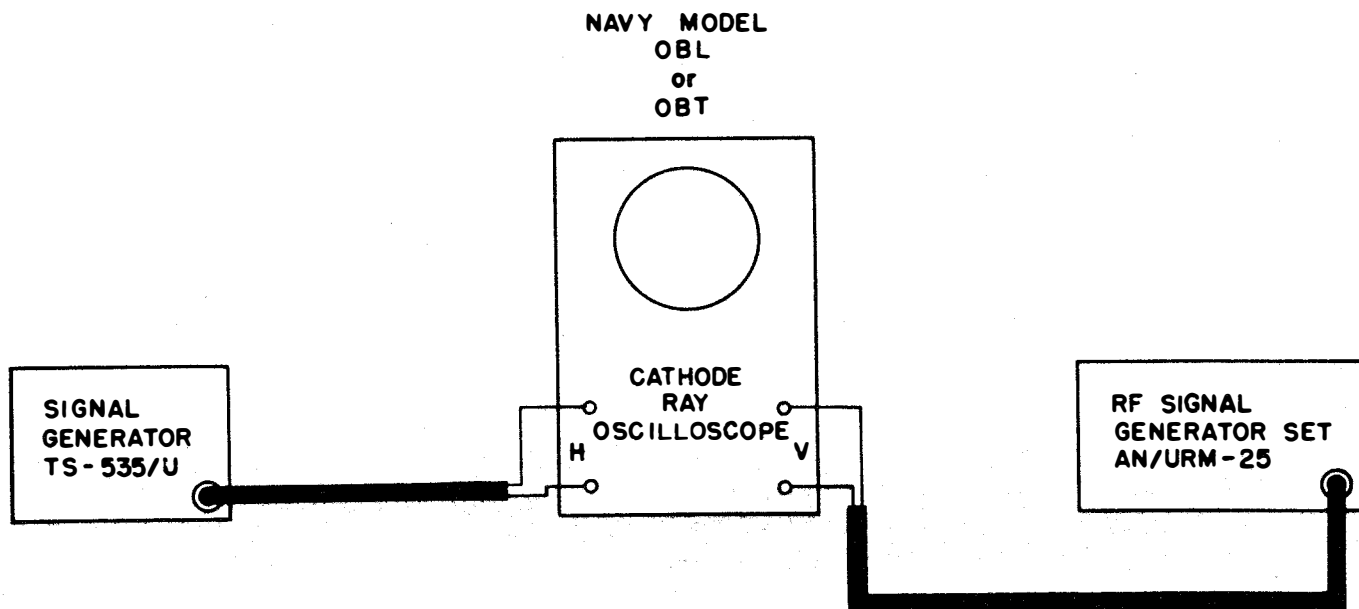

Figure 6-8. Method for Calibrating the RF Signal Generator Set AN/URM-25 at Frequencies Below 100 Kilocycles
(4) In using the heterodyne frequency meters referred to in paragraph 7 of this section, connect the output test cable (W-104) to the heterodyne frequency meter. Place a pair of earphones across the output of the frequency meter. Make the necessary capacitance and inductance adjustments while listening for a zero beat on the earphones.
(5) For calibrating frequency ranges below 100 kc, use the Signal Generator TS-535/U. Feed the output from the RF Signal Generator Set AN/URM-25 and Signal Generator TS-535/U to the horizontal and vertical inputs of an oscilloscope such as Navy Models OBL or OBT series (See figure 6-8). Adjust the frequency of the Signal Generator TS-535/U and the frequency of the RF Signal Generator Set AN/URM-25 to the same value. Be sure to calibrate the Signal Generator TS-535/U according to its instruction book before using it as a standard in this procedure.